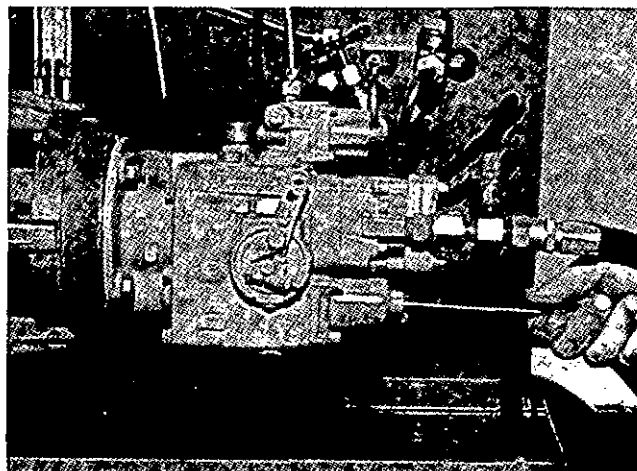

Fig. 10-55, (F5175). Adjust the standard governor idle.
4. Check the pressure on the calibration pressure gauge. It must be the same as line 12. If the pressure is low, turn the idle and adjustment screw clockwise with 3375981 or ST-984. This screw is inside the spring pack cover, Fig. 10-55. To lower the pressure, turn the screw counterclockwise.